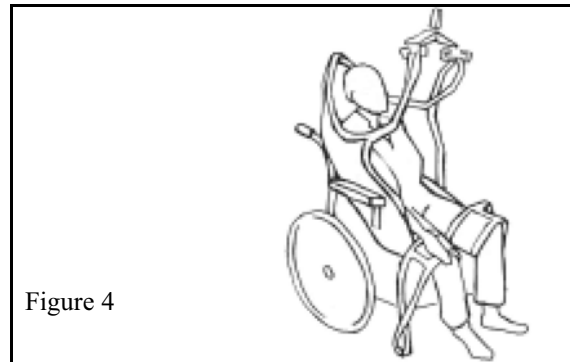

Figure 4
- 3 From a kneeling/squatting position, the caregiver will gently lift one of the resident/patient's legs apart and fit the leg portion of the sling around the hip and under and up between the legs. When applying the sling around the hips, ensure that the bottom edge of the leg straps is going to fall beneath the trochanters (big bumps on hips). It is the scooping effect under the pelvis that gives stability and safety to the sling, even when residents/patients are resistive and/or moving around in the sling. Loop strap outwards over each leg (see Figure 4).